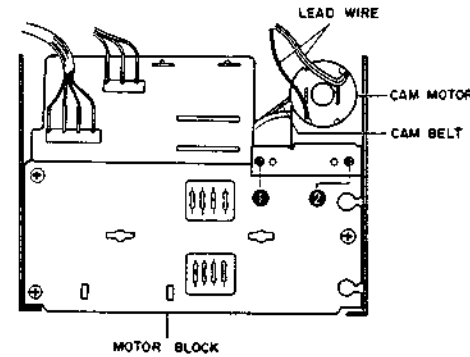

Fig. 3-8
- 3) Remove cam motor base screws (F) and (G) from the motor block. (Refer to Fig. 3-8.)